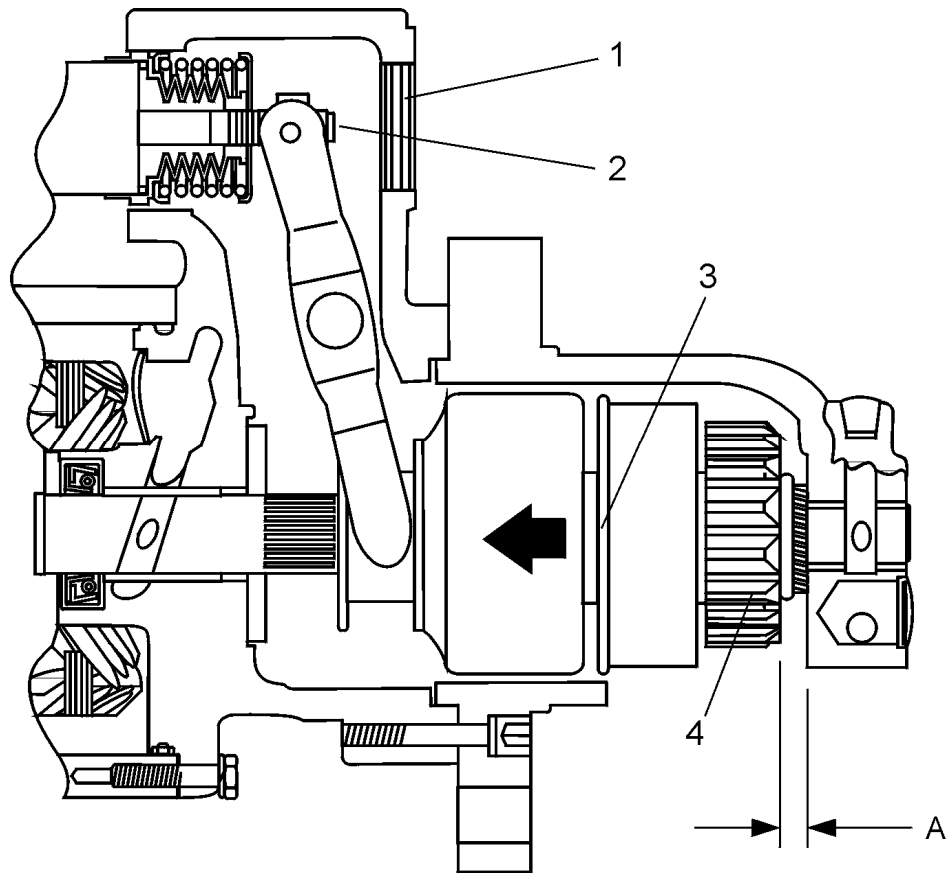

Fig. 8.20. Measuring Pinion Clearance
4. Measure the distance between drive and housing (Fig. 8.20).
5. Adjust clearance by removing plug and turning shaft nut (Fig. 8.20).